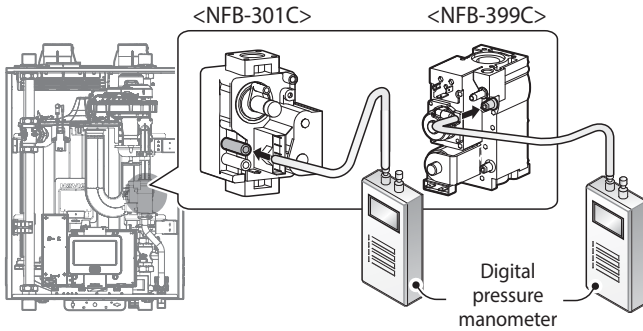

Figure 9. Connect Digital Pressure Manometer
- Open the offset pressure port by loosening the screw two turns as shown in Figure 9.